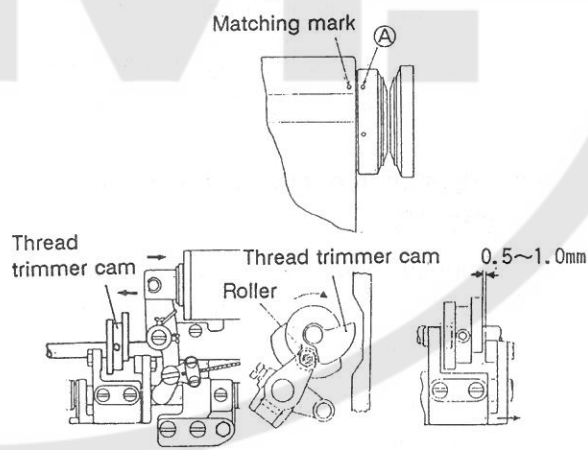

Fig. 10
4.2.7 Installation of thread trimmer cam (Fig. 10)